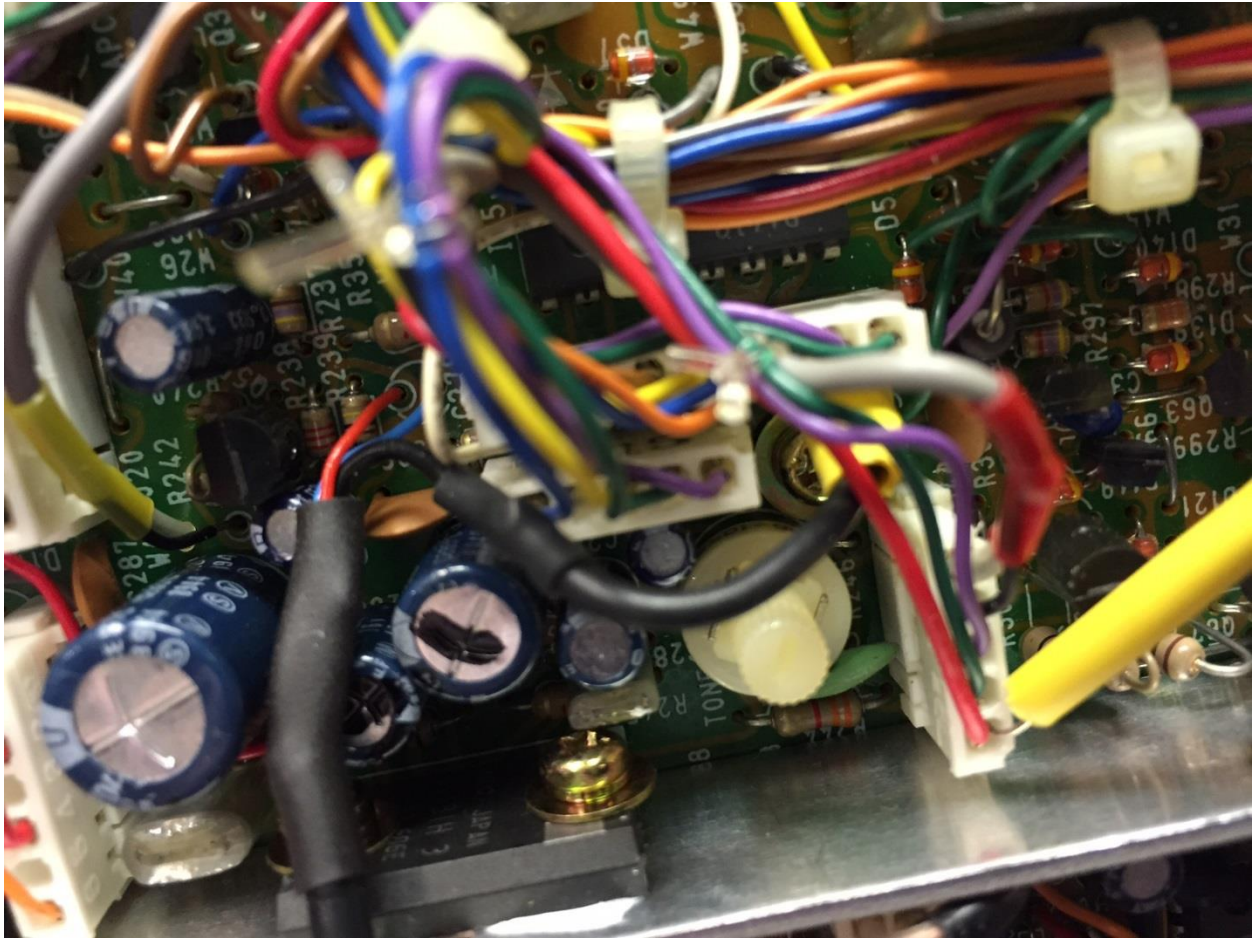

Figure 8. The DSP red and blue signal leads, black ground, and red power lead (covered with yellow insulation) connected to IC735 board.
5. Connect the DSP board red and blue signal leads, ground, and power lead (Figure 8). The power lead is connected by unplugging the plug from J10, inserting the power lead in the hole for the red, power lead on J10 and reinserting the plug. The board is then secured by tie wrapping it to the wiring bundle next to the front panel. There is plenty of room to do this while keeping the board clear of nearby circuitry.